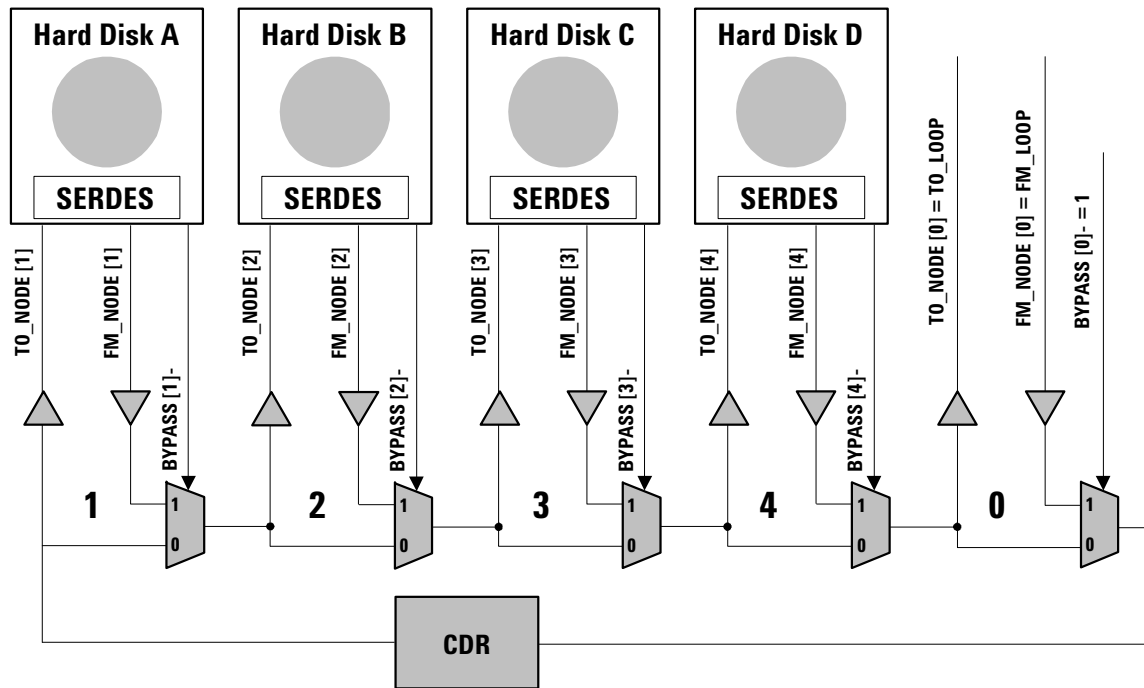
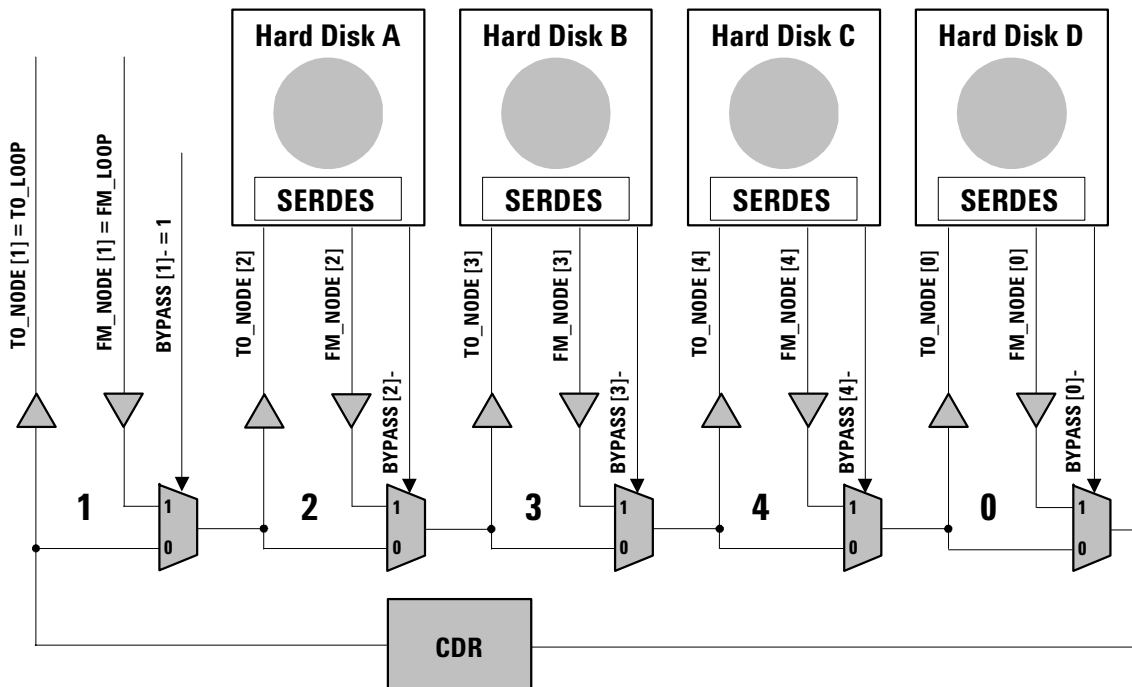

Figure 2 - Connection Diagram for CDR at First Cell
Figure 3 - Connection Diagram for CDR at Last Cell
HDMP-0552's TO_NODE[n]± differential output pins to the Disk Drive Transceiver IC (for example, an HDMP-263x) Rx± differential input pins. Data from the Disk Drive Transceiver IC Tx± differential output pins goes to HDMP-0552's FM_NODE[n]± differential input pins. Figure 2 and Figure 3 show connection diagrams for disk drive array applications. When the “disk bypassed” mode is selected, the disk drive is either absent or nonfunctional, and the loop bypasses the hard disk.
The design of HDMP-0552 allows for placement of the CDR at any location with respect to hard disk slots. For example, if BYPASS[0]- pin is tied to V_{CC} and hard disk slots A to D are connected to PBC cells 1 to 4 in the same order, the CDR function is performed at entry to the HDMP-0552 (Figure 2). To achieve a CDR function at exit from the HDMP-0552, BYPASS[1]- must be tied to V_{CC} and hard disk slots A to D must be connected to PBC cells 2, 3, 4, 0 in that order (Figure 3). Table 3 shows all possible connections. In case of CDR at entry, a Signal Detect (SD) pin shows the status of the signal at the incoming cable. The recommended method of setting the BYPASS[i]- pins HIGH is to drive them with a high-impedance signal. Internal pull-up resistors force the BYPASS[i]- pins to V_{CC}.